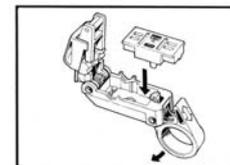

Figure 19
C. Installation of adjustment gauge. The gauge is marked with different cable types. Install gauge so that the markings, which correspond to the cable type to be stripped are above the adjustment screws (Fig. 19). Close the tool.